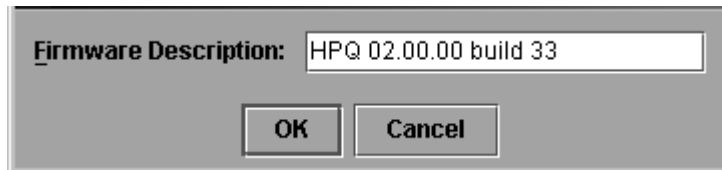

Figure 4–4: Modify Firmware Description dialog box
3. Choose **Maintenance > Firmware Library**. The **Director Firmware Library** dialog box displays, as shown in Figure 4–1.
4. Select the firmware version to be modified and click **Modify**. The **Modify Firmware Description** dialog box displays, as shown in Figure 4–4.